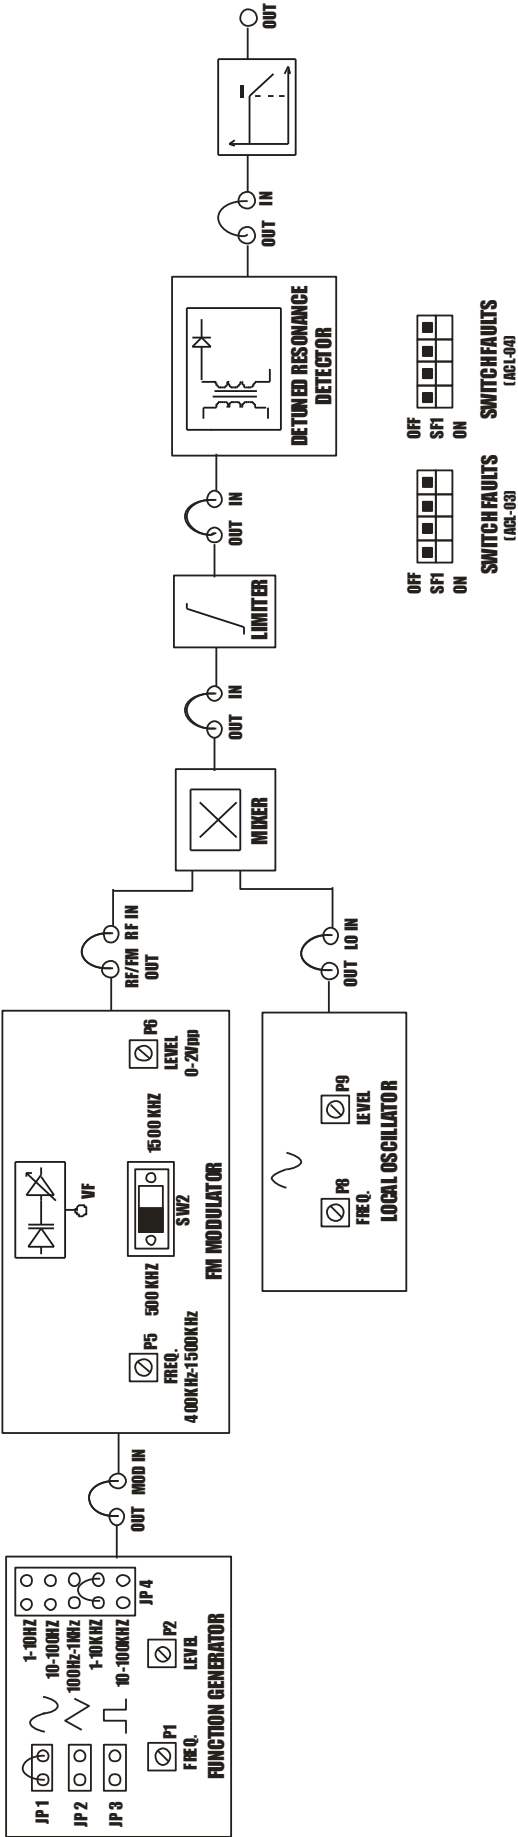

FIG.3.15 BLOCK DIAGRAM FOR DETUNED RESONANCE DETECTOR
- Refer to the FIG. 3.15 & Carry out the following connections.